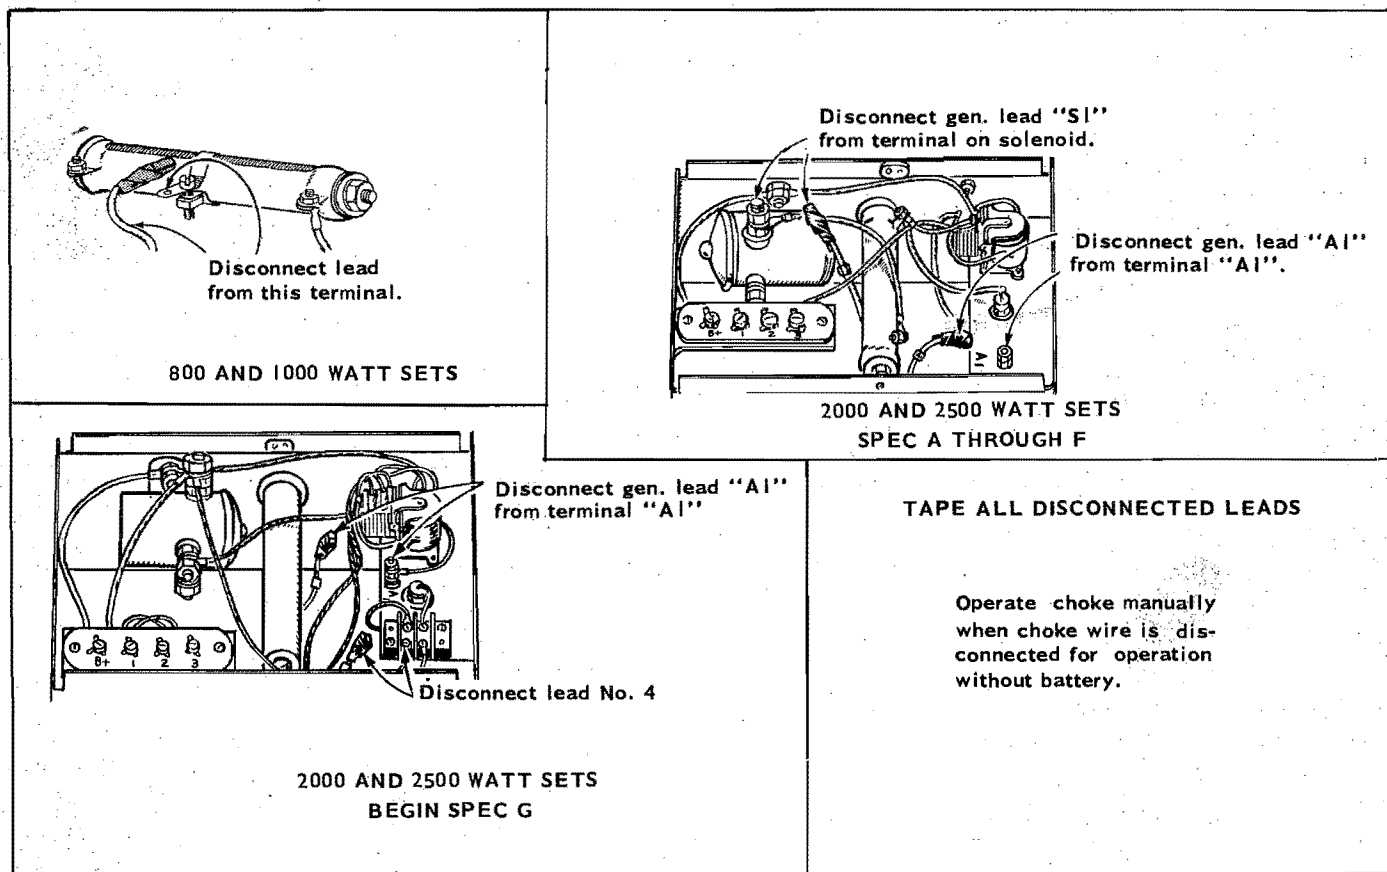

FIGURE 9. LOAD WIRE CONNECTIONS
2. If the starting battery is disconnected, certain wires inside the control box must also be disconnected, depending upon the model (see Figure 9). Spec H and Spec K can be operated with batteries disconnected.